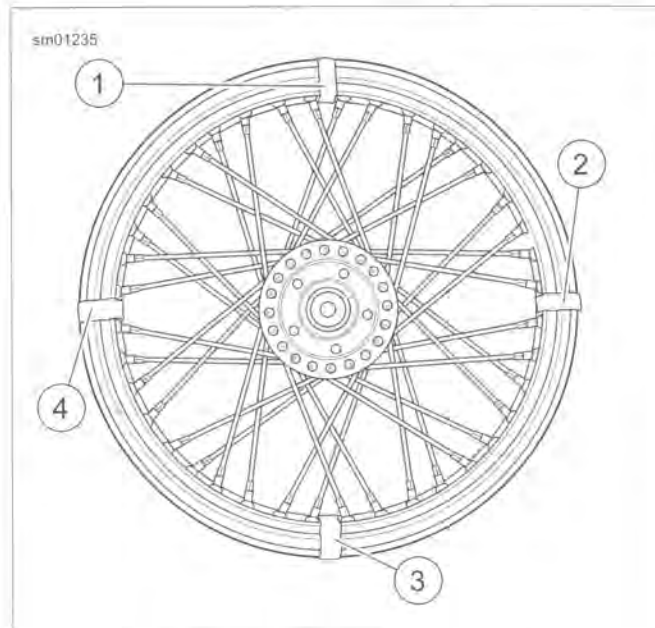

Figure 2-26. Marking Spoke Groups
1. See Figure 2-26. Place a piece of tape to mark the center of each group of four spokes as shown. The groups should be directly opposite one another and approximately 90 degrees apart. Using different colors of tape or numbering each group is helpful.